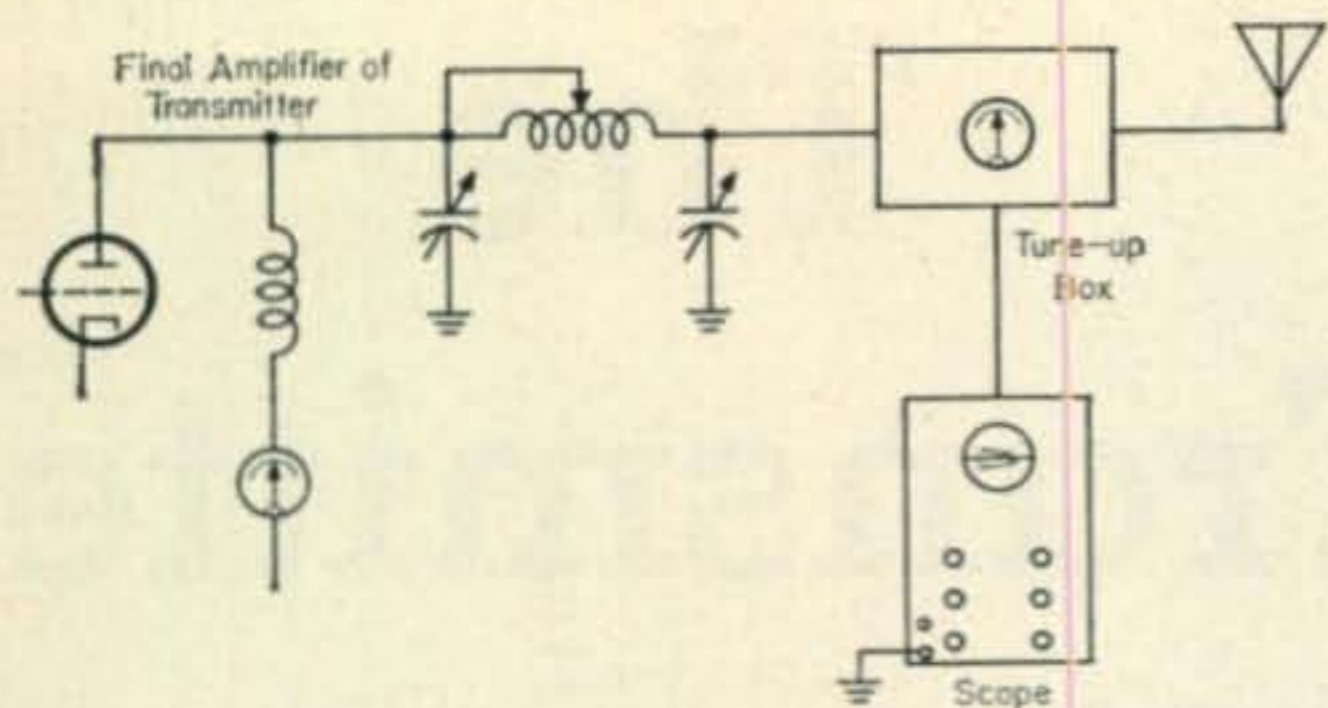

Fig. 1—Typical set-up for use of the transmitter tune-up box as an attenuator for scope observations.
In mobile work, at best, the efficiency of your antenna system is rather low, so anything you can do to get the last ounce of power is desirable. This you can do with the tune-up box. Figure 1 shows the box hooked up to a transmitter and oscilloscope.
Fig. 1—Drawing (A) illustrates 100% modulation with a sine wave. Two hundred per cent (over-modulation) is shown in (B). (C) shows the improvement in the negative modulating cycle provided by the Ultra modulator circuit.